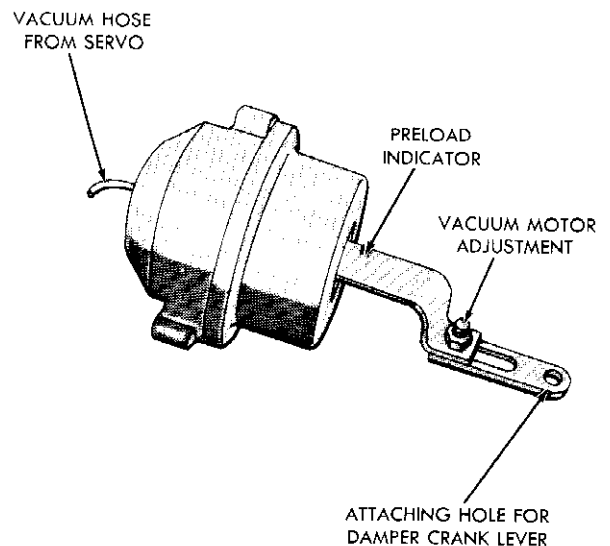

Fig. 4-11—Vacuum Motor Link Adjustment—(61LM-7818)
2. Adjust the link until the preload indicator is flush with the motor body. (See Figure 4-11.) The damper must be in its normal position with no vacuum applied.